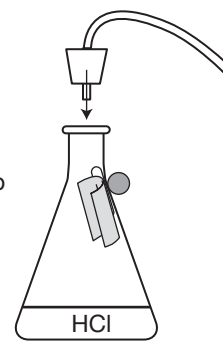

Figure 3.
9. Slowly lower the magnet to lower the zinc down about 2 cm into the flask as shown in Figure 3. Do not let the zinc come in contact with the HCl at the bottom of the flask!
11. Take the stopper that is connected by the delivery tube to the gas collecting trough and insert it securely into the flask (see Figure 3).